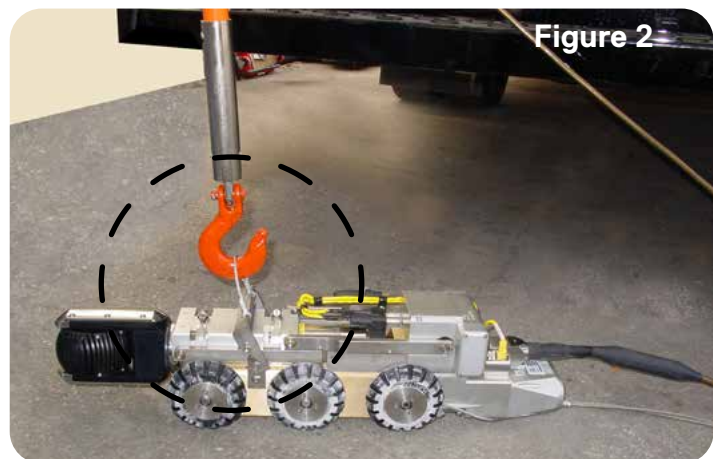

Figure 2
6. Slowly drive the transporter in reverse while attempting to shift the gear handle. Repeat this process until the gears are fully engaged (or the shifter handle is aligned with the other slot). If necessary, use a small flat screwdriver blade to push the flat top of the shifter cylinder rod against the slot to shift (refer to Figure 2).
Full engagement of the lift bracket to the transporter lift pins is reached when the bracket rotates to a near vertical position (Ref. Figure 2 and View A & B). Maintaining constant hook pressure towards the aft end of the transporter prior to lifting will ensure full engagement.